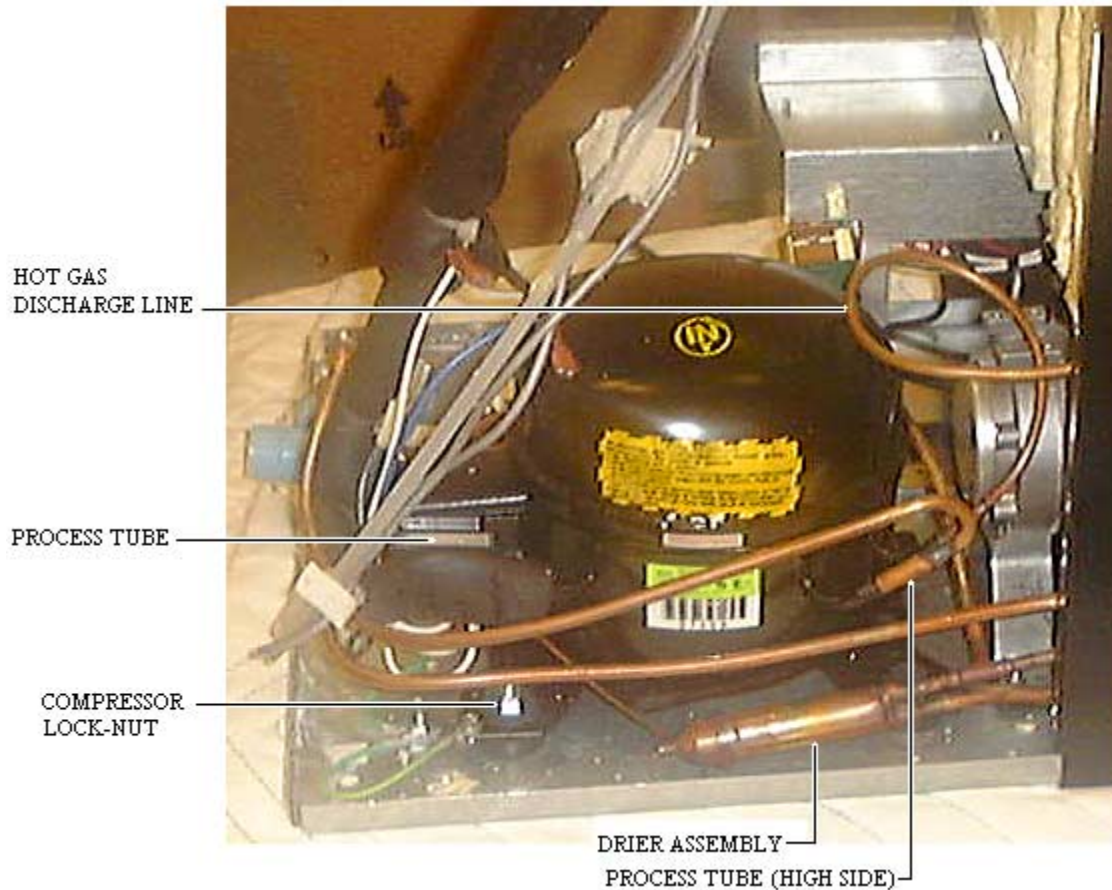

Figure 3.8
25. Un-braze and remove the suction line at the compressor (see figure 3.8)
26. Un-braze the hot gas discharge line at the compressor (see figure 3.8)
27. Remove the compressor by removing the two lock-nuts on the mounting plate of the compressor. Lift the compressor off of the carriage bolts (see figure 3.8)
15. Un-braze and remove the suction line at the compressor (see figure 3.8).
16. Un-braze the hot gas discharge line at the compressor (see figure 3.8).
17. Remove the compressor by removing the two lock-nuts on the mounting plate of the compressor (see figure 3.8). Lift the compressor off of the carriage bolts.
15. Un-braze the hot gas line from the compressor at the top of the condenser coil (see figure 3.8).